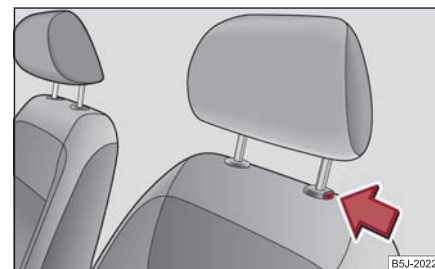

Fig. 66 Removing a head restraint
- Move the head restraint downwards if required by pressing the locking button ⇒ fig. 66 and by pressing with the other hand the head restraint downwards.
- Press the locking button in the direction of arrow ⇒ fig. 66 and pull the head restraint out.